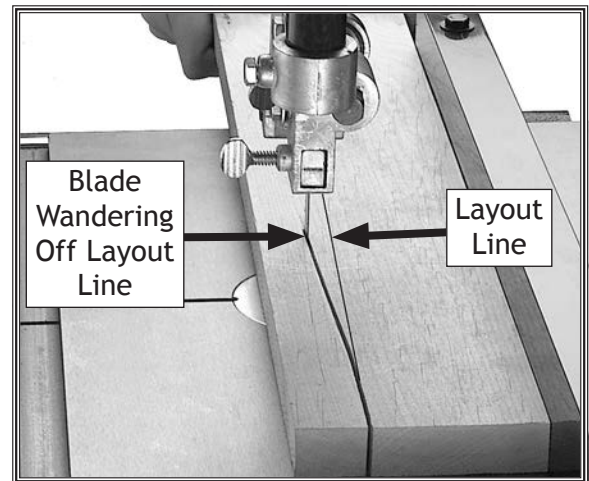

Figure 91. Example of blade lead.
Bandsaw blades may wander off of the layout line when sawing, as shown in **Figure 91**. This is called blade lead.
2. On wide face of board, draw a straight line parallel to long edge, similar to layout line shown in **Figure 91**.